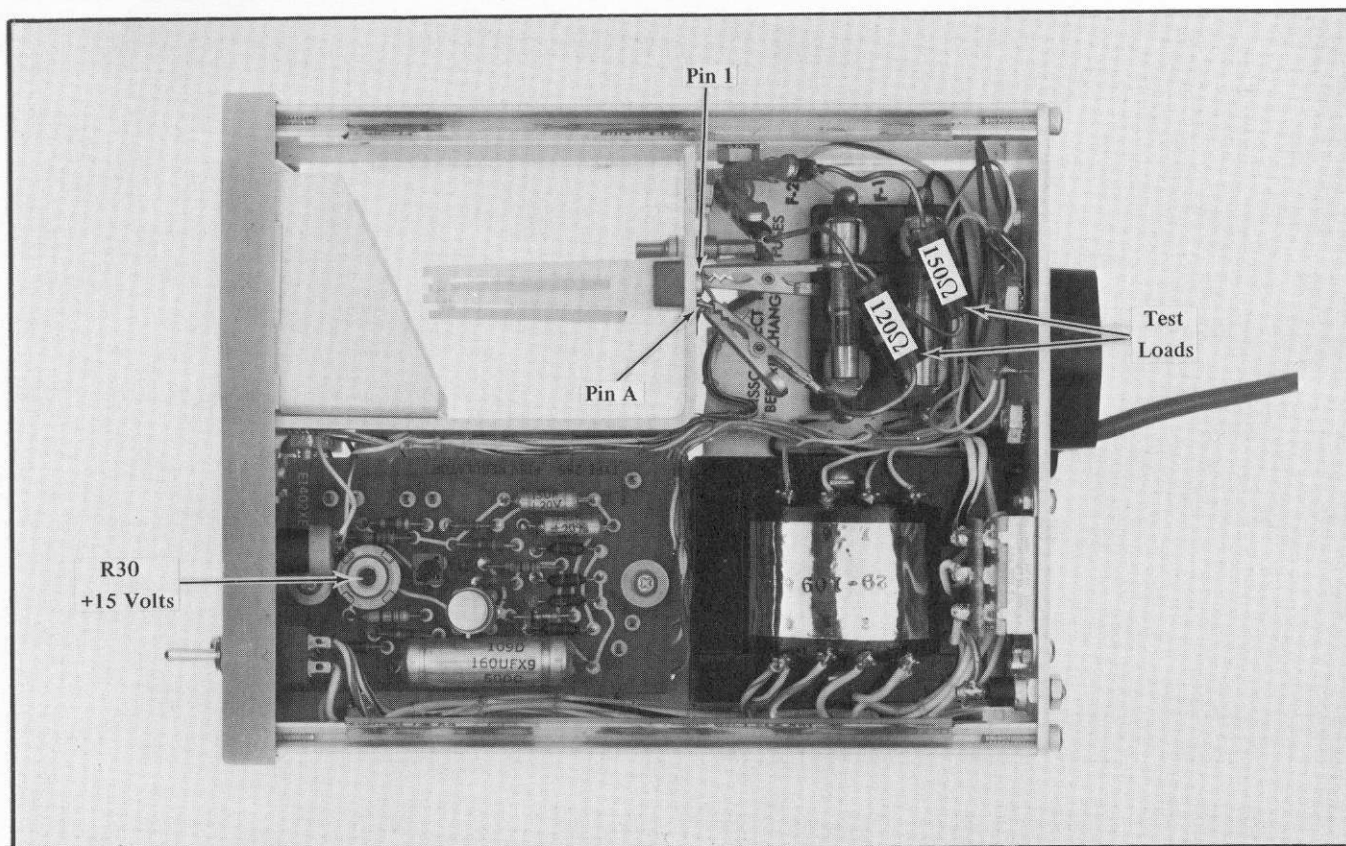

Fig. 5-1. Locations of test points and adjustment.
a. Set the oscilloscope trace at the graticule center line. Connect the 1X probe to pin 1 at the 150  $\Omega$  resistor in the Type 285. Fig. 5-1 shows the locations of test points and the adjustment.